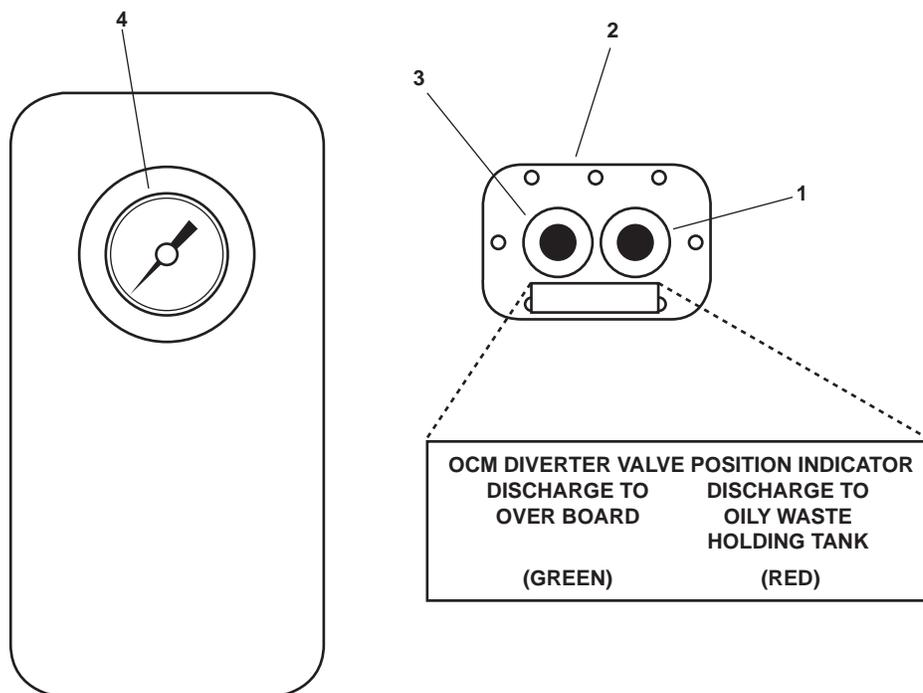

Figure 5. OCM Diverter Valve Position Indicator
6. Set the OIL CONTENT MONITOR circuit breaker (figure 2, item 2) in the 120V distribution panel No. 4 to ON. The red indicator (figure 5, item 1) on the OCM diverter valve position indicator (figure 5, item 2) will illuminate to signal that the OCM has power available.